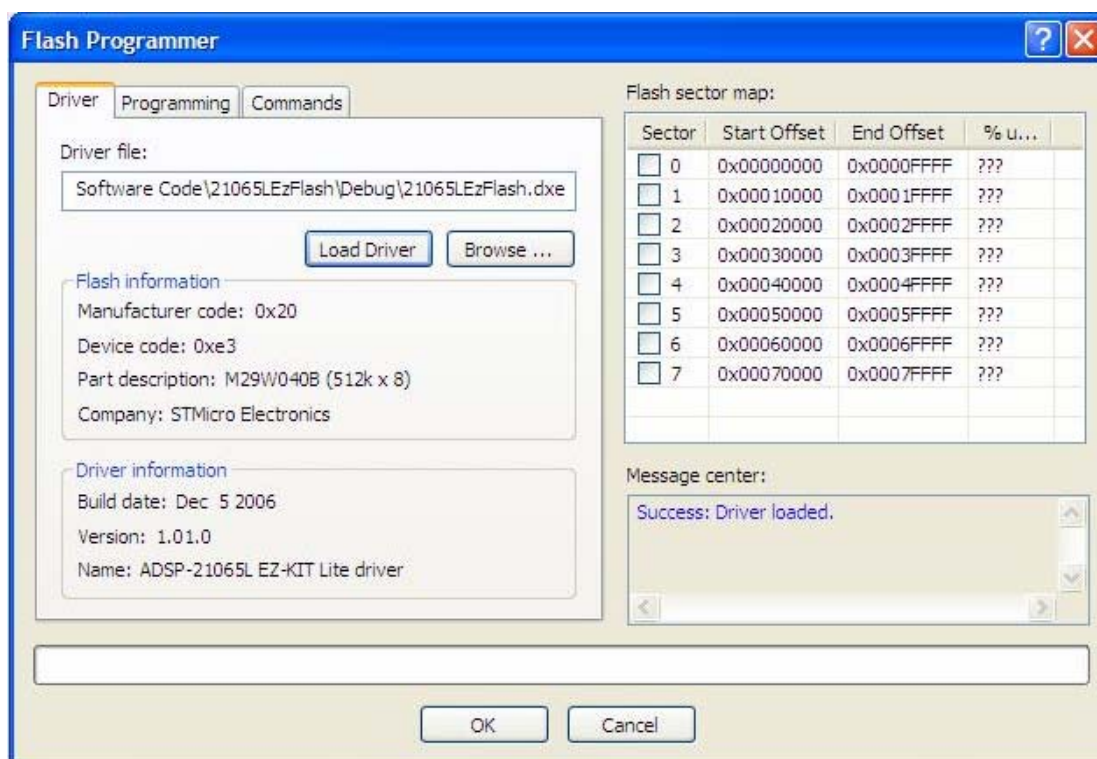

Figure 6. Flash Programmer – loading the flash programmer driver file
1. Click the Driver tab. Click the Browse (...) button next to the Load Driver button (Figure 6) and select the path for the flash programmer driver file.